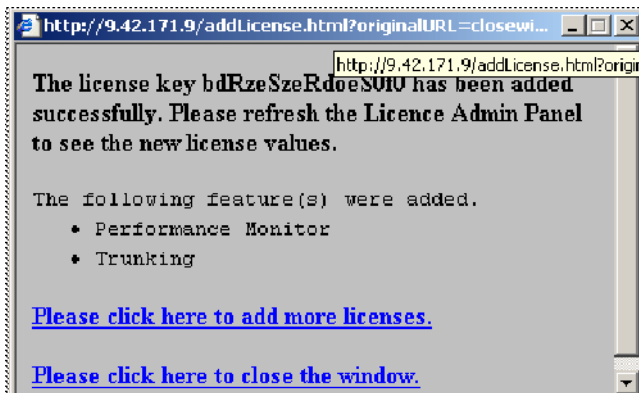

Figure 5-30 Adding more licenses
6. Select **Please click here to add more licenses** and continue adding licenses keys until complete (Figure 5-30).